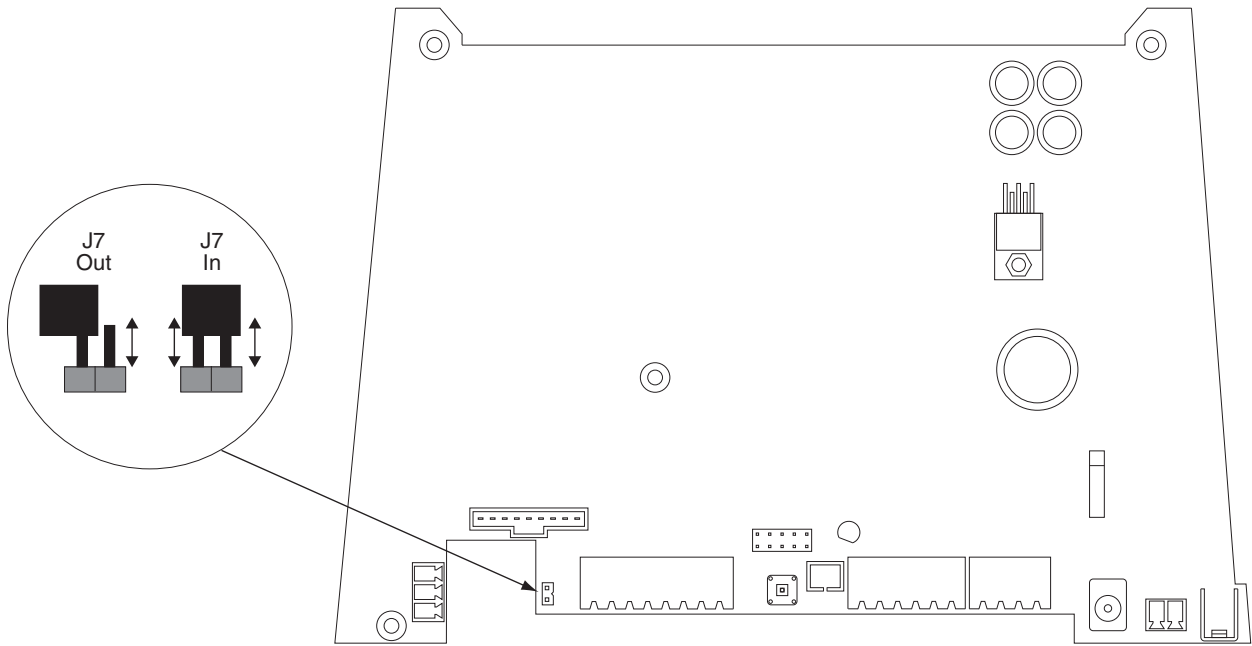

Figure 9
▲ CAUTION: If the unit is equipped with an optional battery backup, remove the J7 jumper before proceeding. See figure 9.
15. If not already removed, remove the J7 jumper from the main PCB. See figure 9 below.